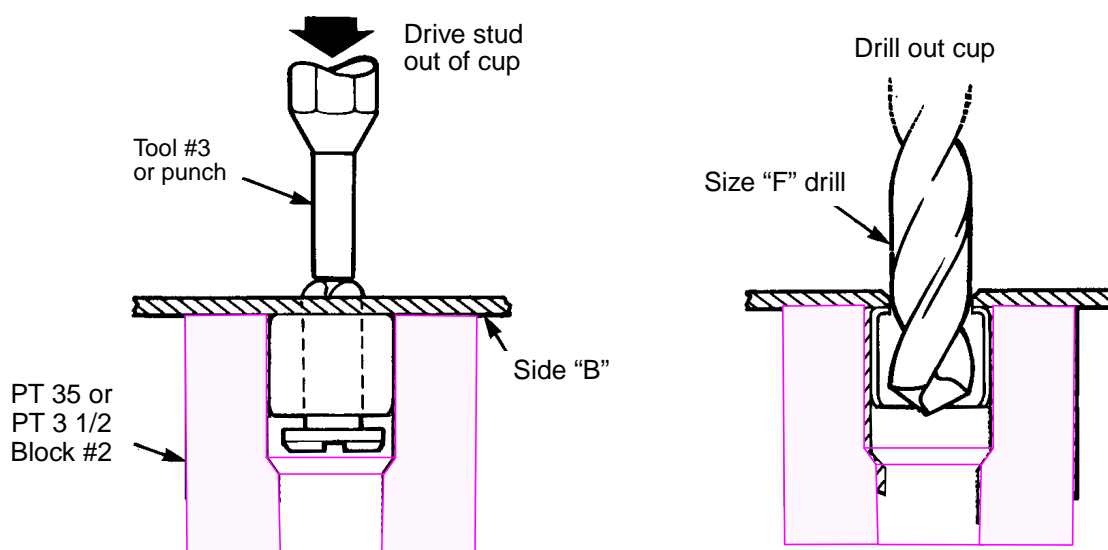

Figure 6 - Removal of Stud Assemblies
5.5.1 If necessary, remove stud assemblies as follows (see Figure 6):